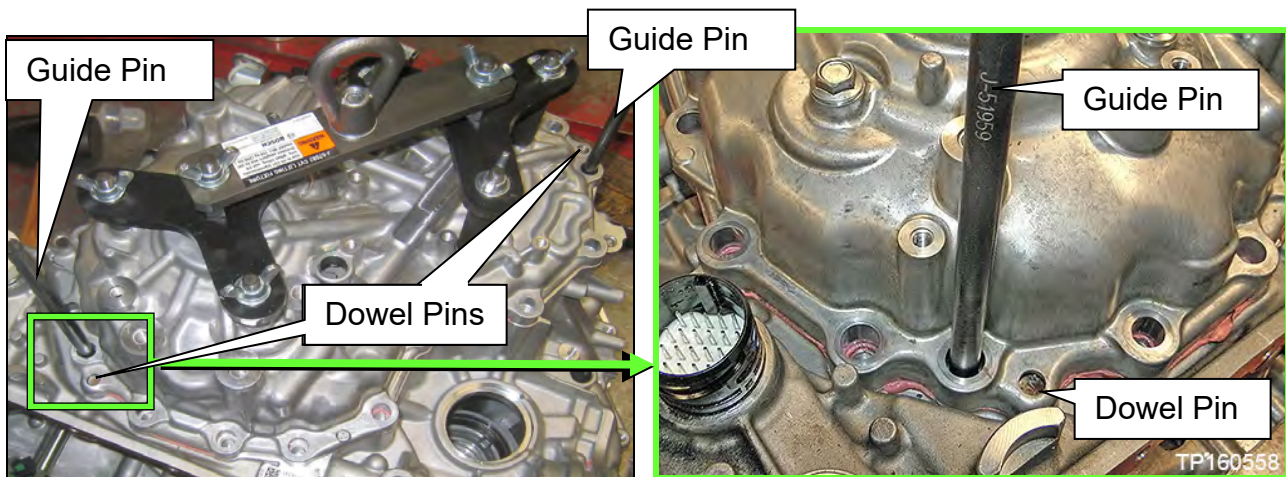

Figure 9E
8. Install the two CVT Assembly Guide Pins (J-51959 - Guide Pins) as shown in Figure 9E and Figure 10E.
NOTE: Guide pin locations are shown in Figure 9E on page 36.